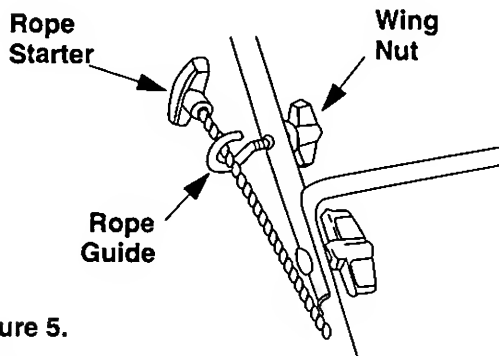

Figure 5.
6. The rope guide is attached to the right side of upper handle. Loosen the wing nut which secures the rope guide. See figure 5.
grounded, hold the blade control handle against the upper handle, and pull the starter rope out of the engine. Release the blade control handle. Slip the starter rope into the rope guide. Tighten the wing nut. See figure 5.